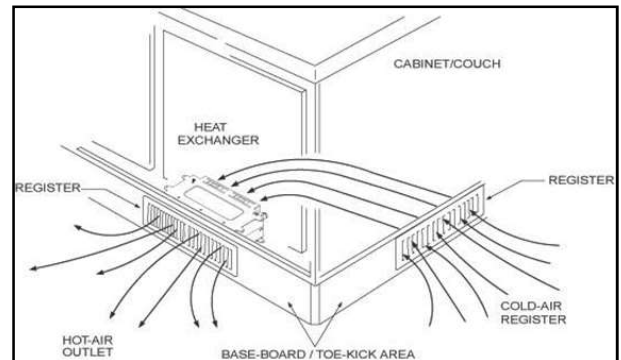

Figure 138
- Heat exchangers should be mounted as close to the hot air outlet grill as possible (Figure 138)